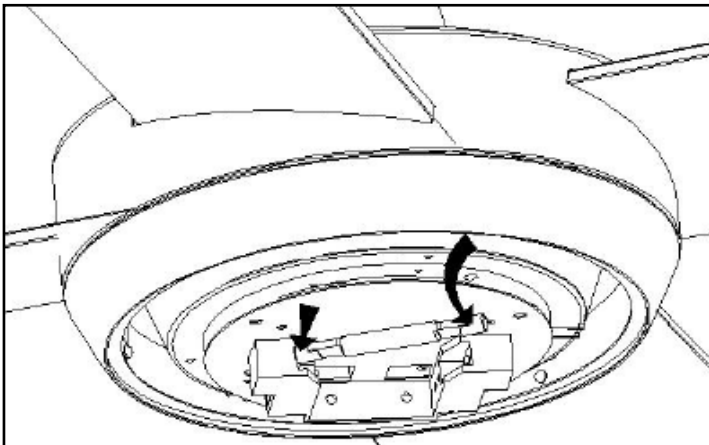

Fig. 12
- Install the Linear R7S halogen bulb to the socket. Fig. 12